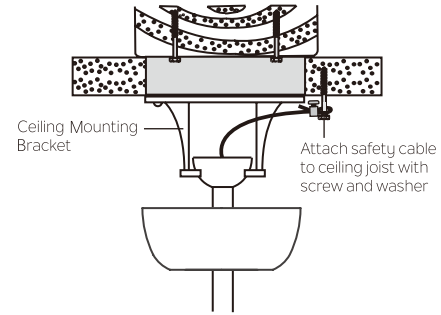

Fig. 11
**Step 1.** Attach the wood screw and washer to the ceiling joist next to the mounting bracket but do not tighten. (Fig. 11)